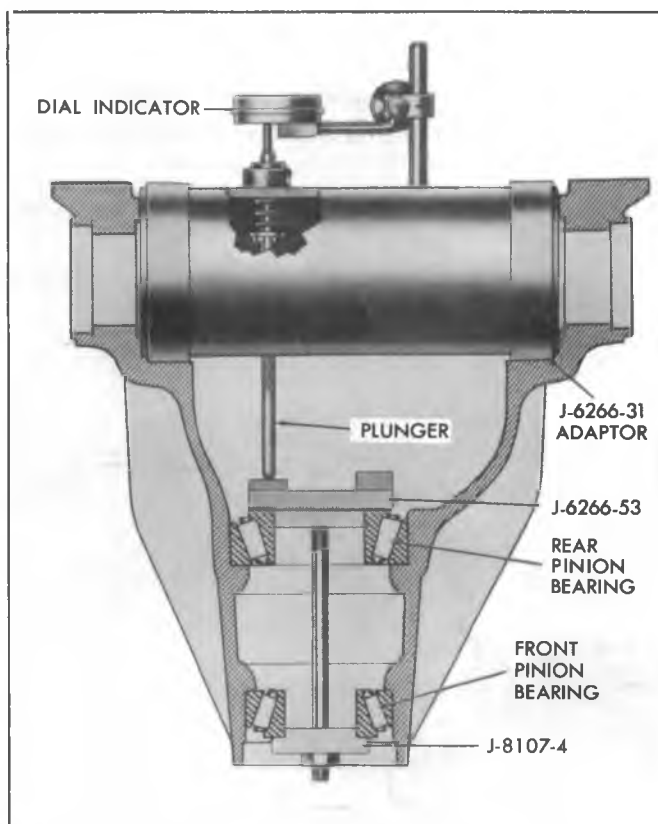

Fig. 13C--Gauge and Clamp Plates Installed
3. Insert clamp screw through gauge plate, both bearings and Clamp Plate J-8107-4 on front bearing. See Figure 13C. Tighten clamp bolt enough to seat properly and check gauge plate alignment.